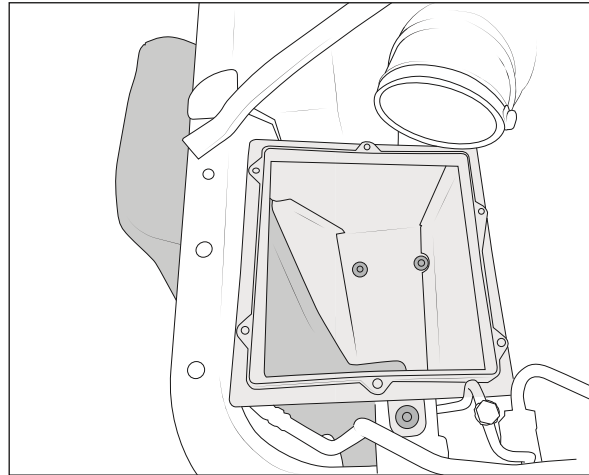

Figure 19
9. Install the lower airbox into the engine bay, being sure to fully seat the rubber grommets onto the mounting studs (fig. 19).